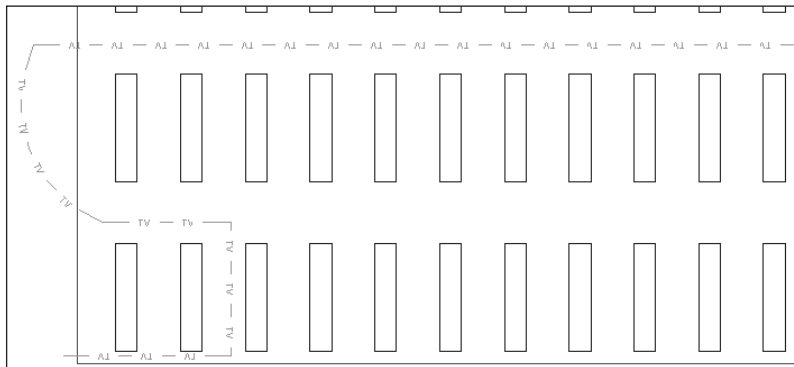

Figure 31-5: The TV linetype
9. Draw some lines or polylines. Zoom in to see the linetype more clearly. Figure 31-5 shows the resulting linetype.